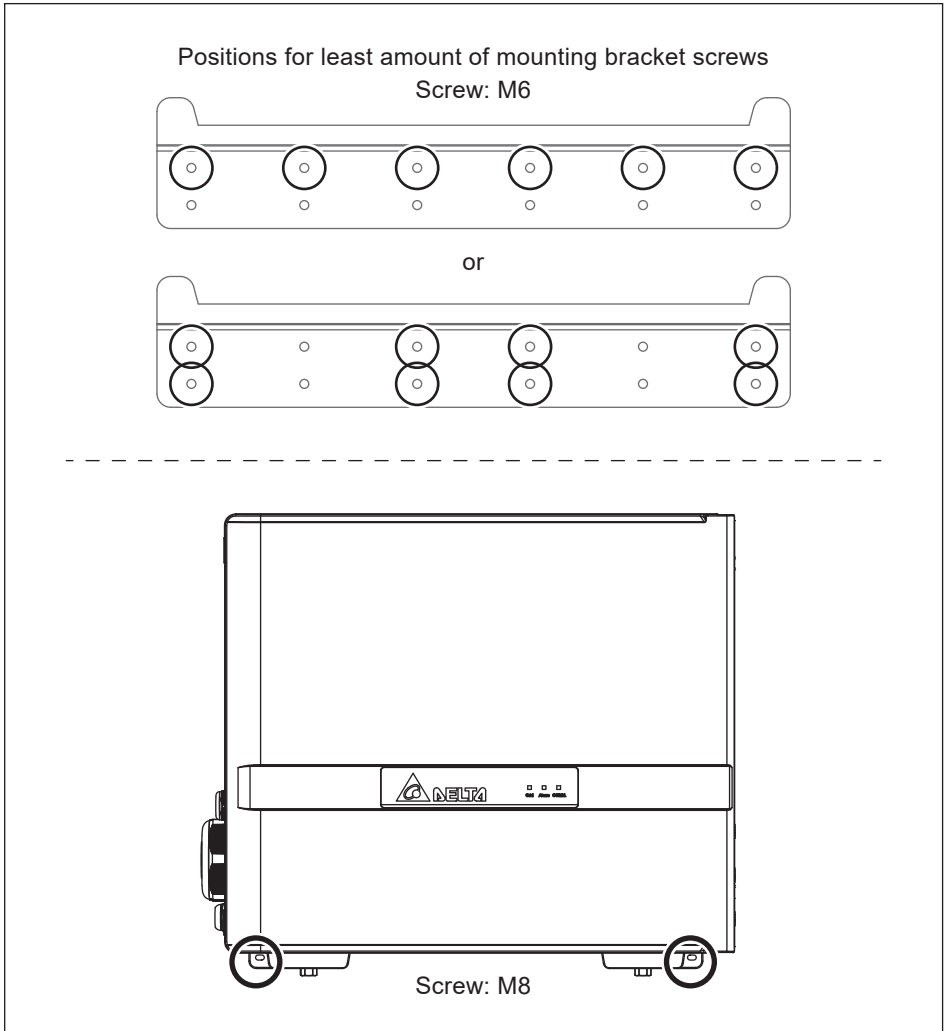

Figure 3-6 : Positions of mounting screws
3. Secure the mounting bracket on the wall with 12 M6 screws. (**Figure 3-6**)